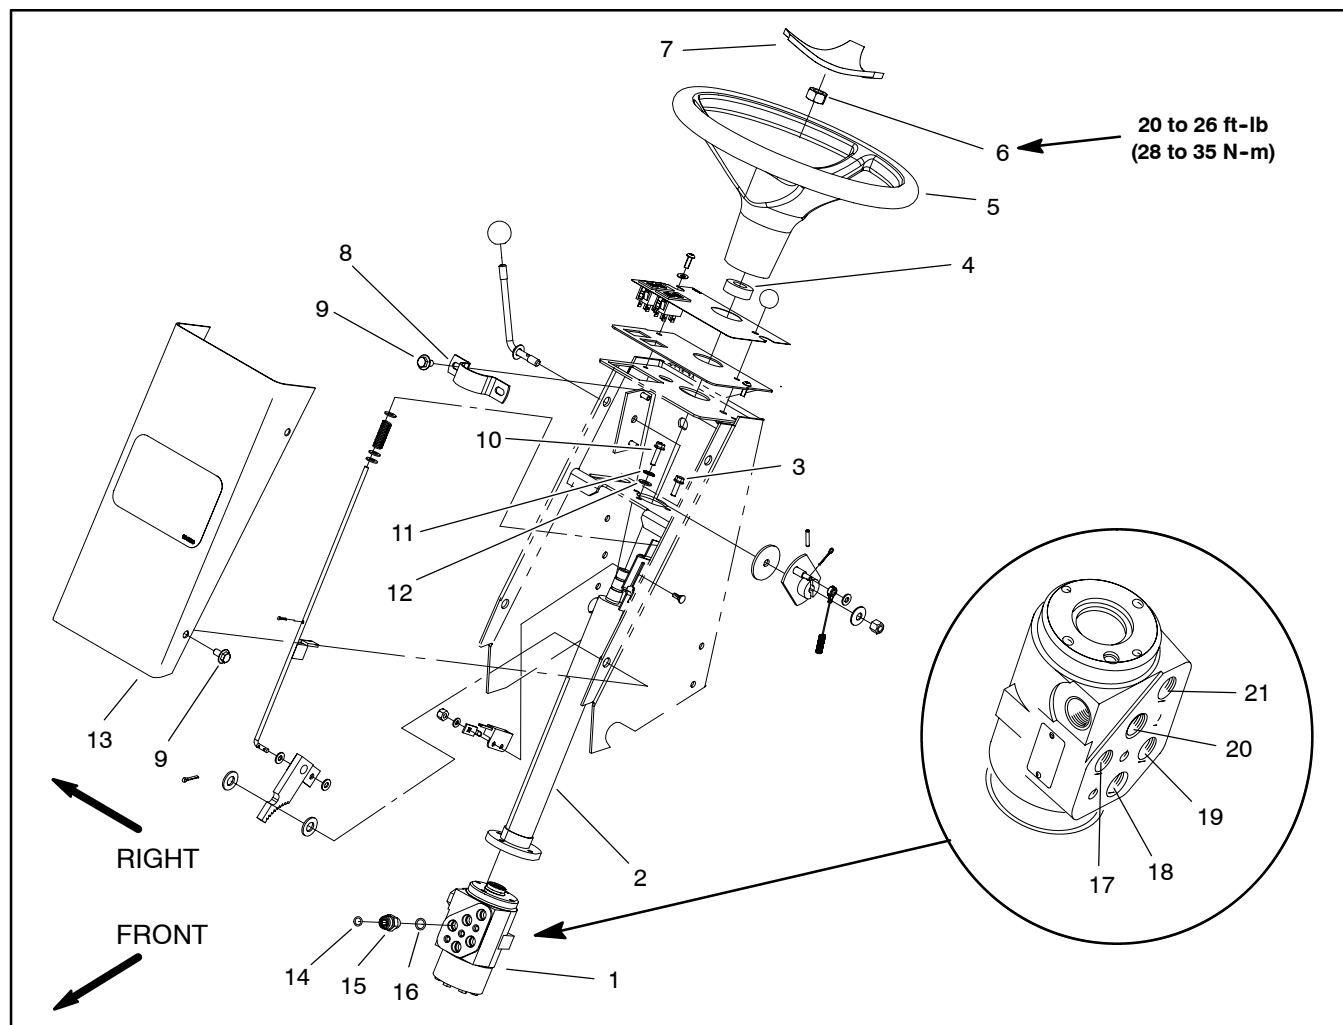

Figure 88
4. Remove steering valve from machine using Figure 88 as a guide.
1. Install steering valve using Figure 88 as a guide.